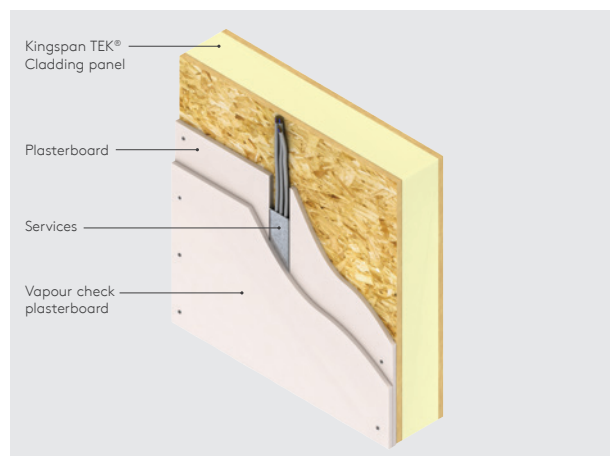

Figure 8
- a double layer of 12.5 mm plasterboard - the layer closest to the TEK® Cladding Panel should be chased out to create a cavity for services. The second layer should be 12.5 mm vapour check plasterboard (see Figure 8).